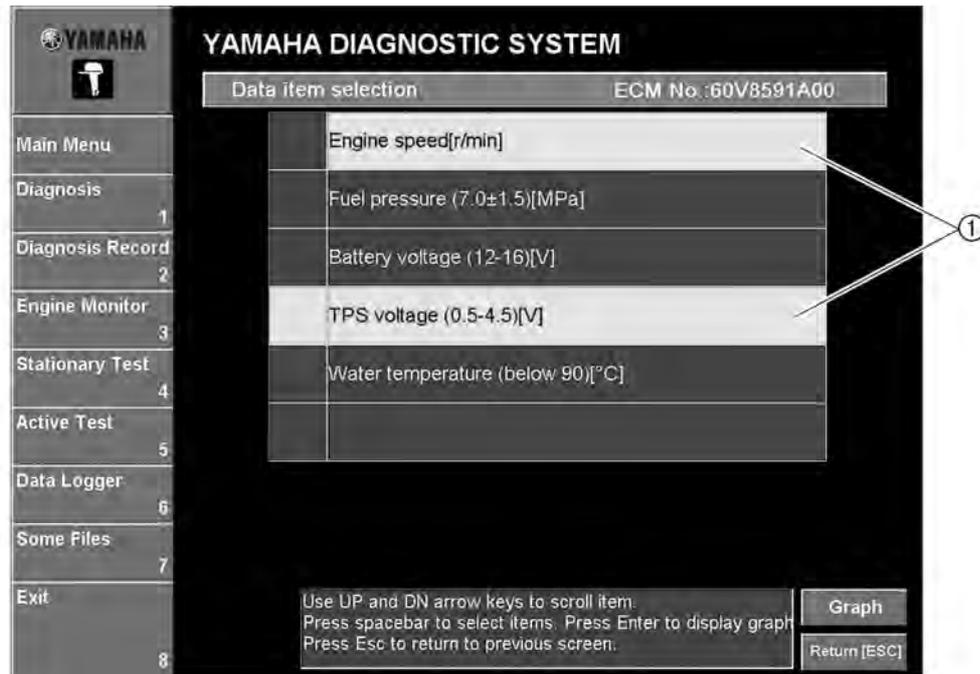
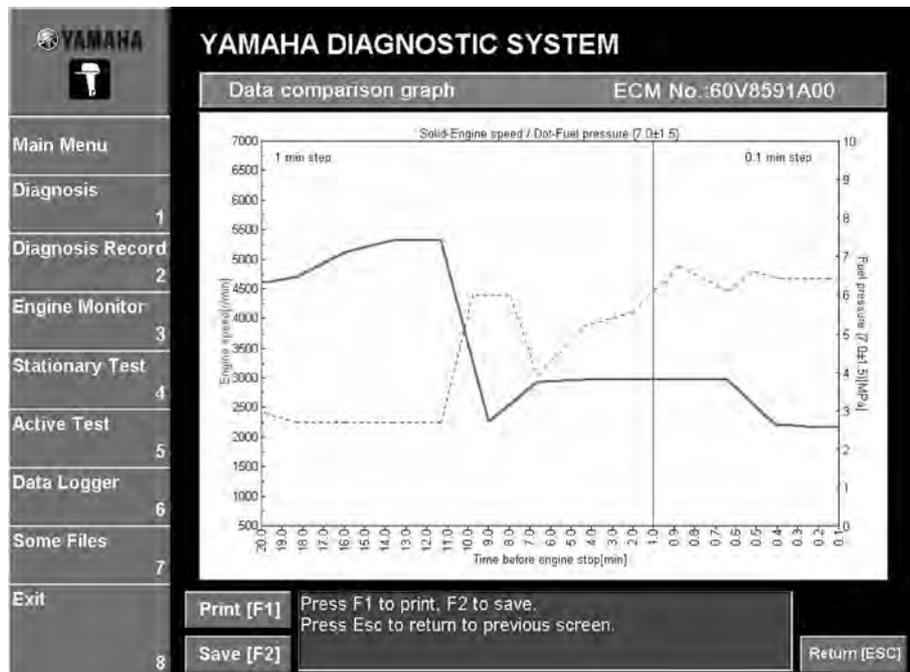

Fig. 109
Fig. 110
2. Select the desired items by either clicking them or pressing the up or down arrow keys on your keyboard, and then press the space bar. (Fig. 109)
3. Click the **Graph** button or press the Enter key on your keyboard. (See fig. 109.) The **Data comparison** window is displayed. (Fig. 110)
A line graph appears with the items selected in the **Data item selection** window on the vertical axes and the **Time before engine stop** on the horizontal axis. (Fig. 110)